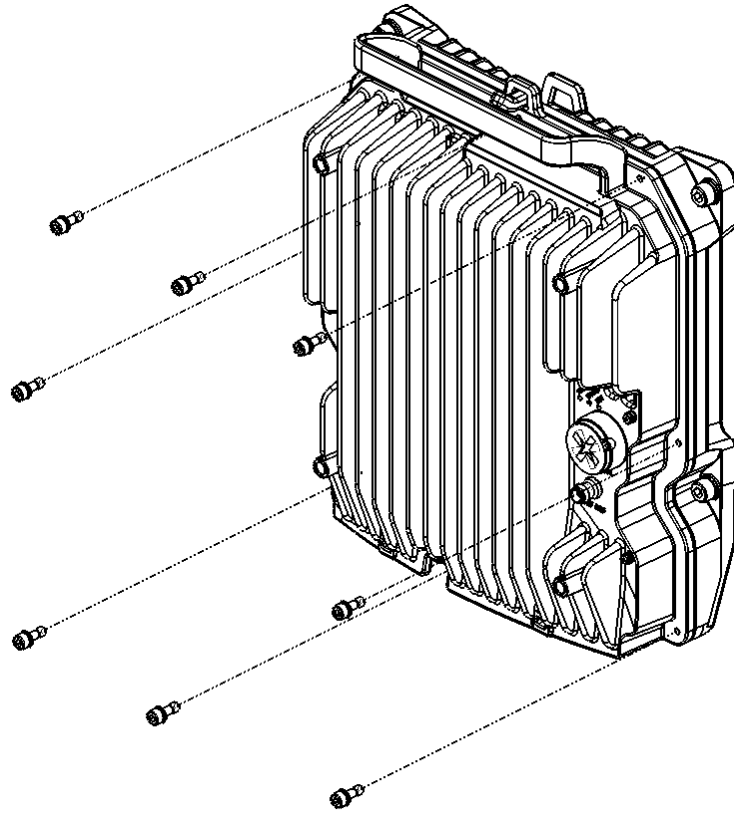

Figure 30: Securing the Diplexer Unit to the Radio Unit
- 4 Secure the diplexer unit to the radio unit using the eight M5 screws supplied with the radio unit. First, gently tighten the screws in the order shown in Figure 30. Then strongly tighten the screws in the same order.